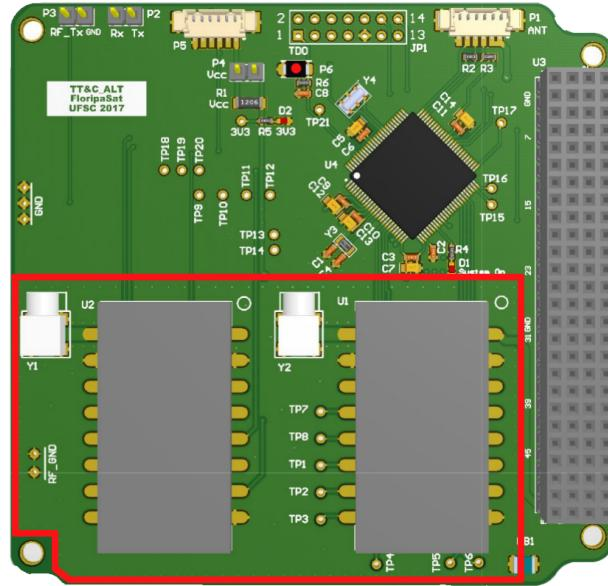

Figure 2.4: RF ground plane region (red) of the TTC board.
- The RF modules are placed in a isolated ground plane (Connected to the main GND using a ferrite bead). This region can be seen in the figure 2.4.